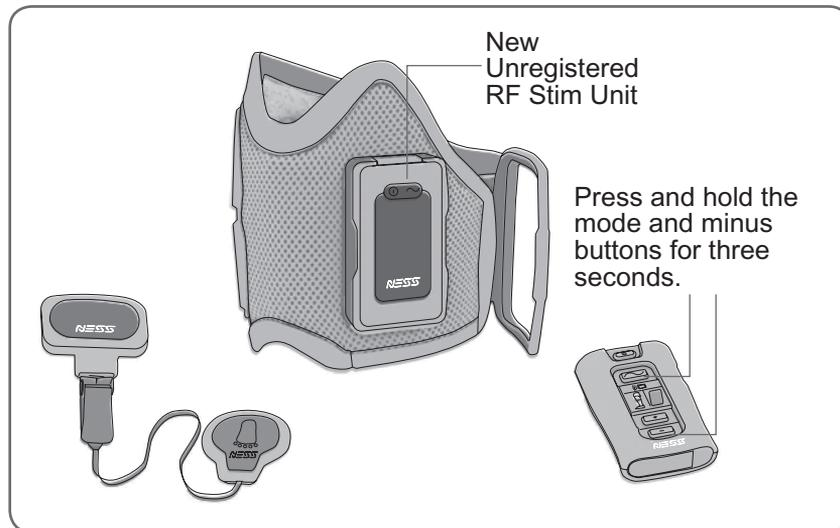

Figure 38: Registering a new RF Stim Unit.
2. Simultaneously press and hold for three seconds the  mode and  minus buttons on the Control Unit. The Control Unit will beep when registration begins. See Figure 38.